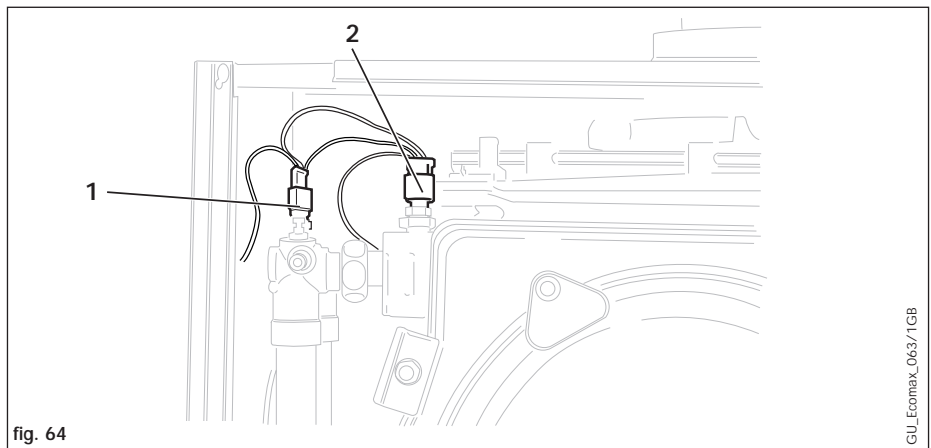

fig. 64
7.7 REPLACEMENT OF TEMPERATURE SENSORS (NTC'S) (FIG. 64)